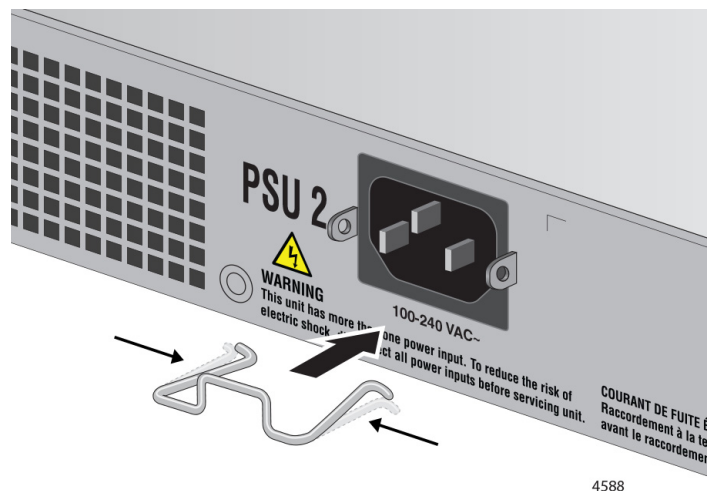

Figure 47. Installing the Power Cord Retaining Clip
1. Install the power cord retaining clip on the AC power connector on the rear panel of the switch. Refer to Figure 47.